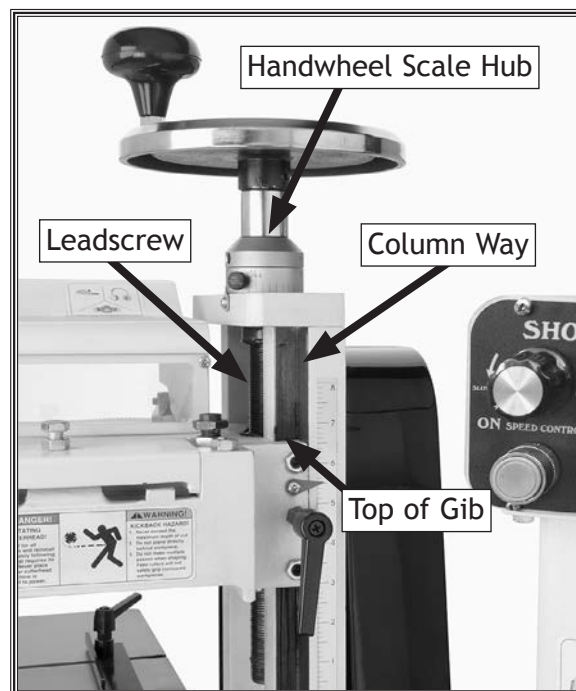

Figure 53. Gib, way, and leadscrew locations.
6. Clean the column ways and leadscrew with mineral spirits, and brush a coat of light machine oil or motor oil on all cleaned locations (see **Figure 53**).